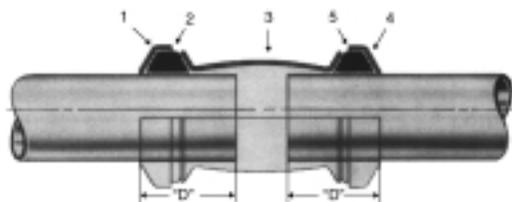
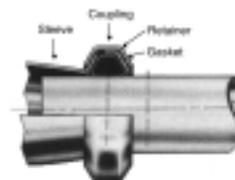

Figure 2
Figure 4
- d) Slide sleeve (3) to gasket (5) and move gasket (2) and retainer (1) into position as shown in Figure 2. Pipe must be inserted to proper depth ("D") into both gaskets as shown in Table 1.
Install both V-couplings, encompassing the retainer, gasket and sleeve as shown in Figure 4. Do not tighten either coupling until the entire joint is assembled (See Figure 2). Tighten nuts to the torque specified in Table 2. Do not lubricate the nut or bolt before assembly. The gap method outlined in Table 3 may be used for standard gaskets only.